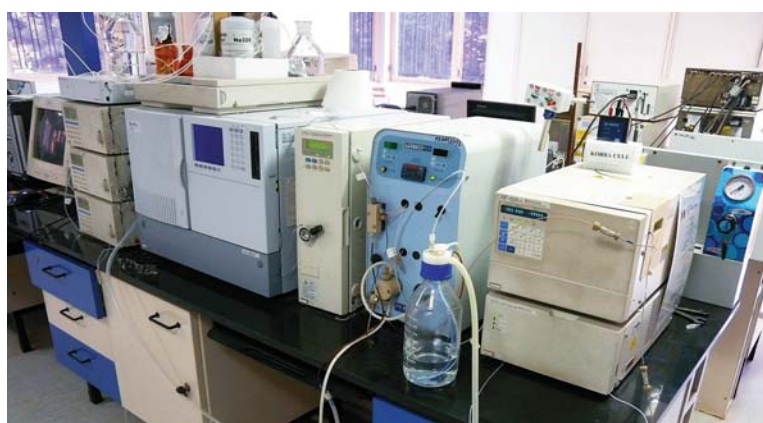

Fig. 11.2 Amino acid analyzer
- Amino acid analyser (Fig. 11.2)